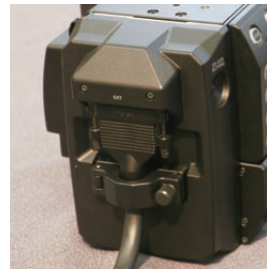

Fig. 3
- 3 Tighten the screw on the extension cable securing fitting. (Fig. 3)**